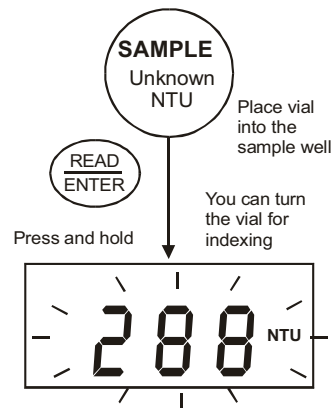

Figure 13: Continuous measurement
3. Press READ/ENTER key and hold. See Figure 13.